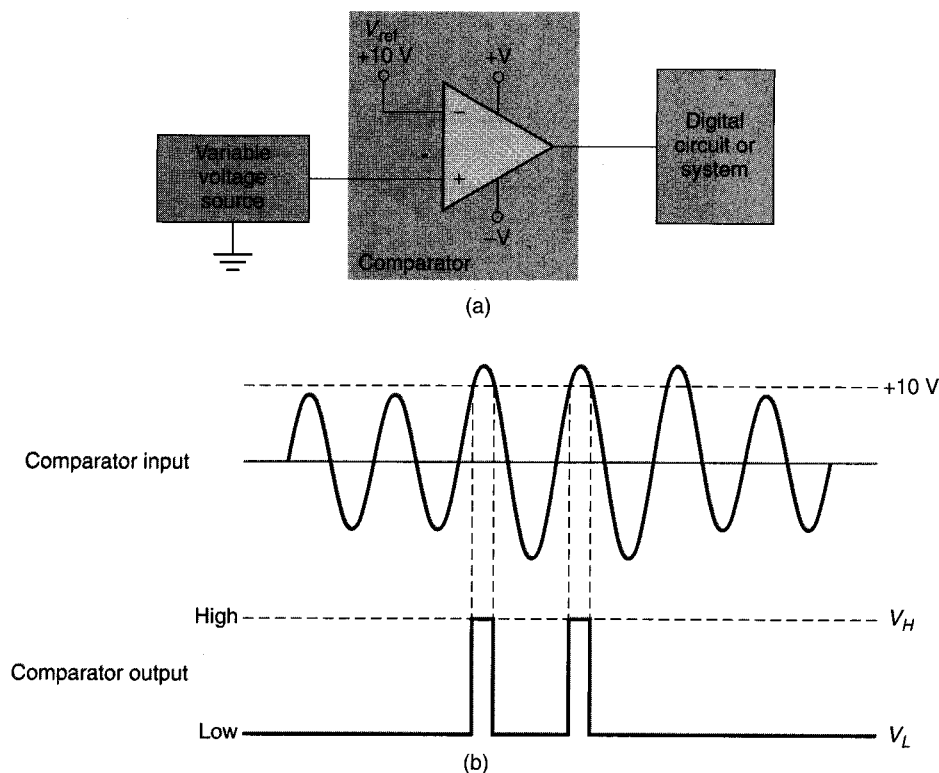

FIGURE 16.2 Basic comparator operation.
3. When a comparator is used to compare a signal amplitude to a fixed dc level (as was the case in Figure 16.2), the circuit is referred to as a **level detector**.